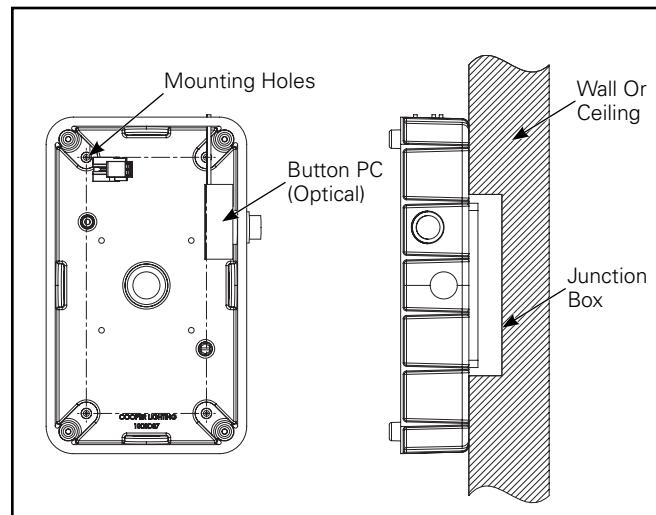

Figure 6.
- Center cast housing on flat smooth ceiling or wall over junction box. Use cast housing as a template to layout fastener locations (see Fig. 6).